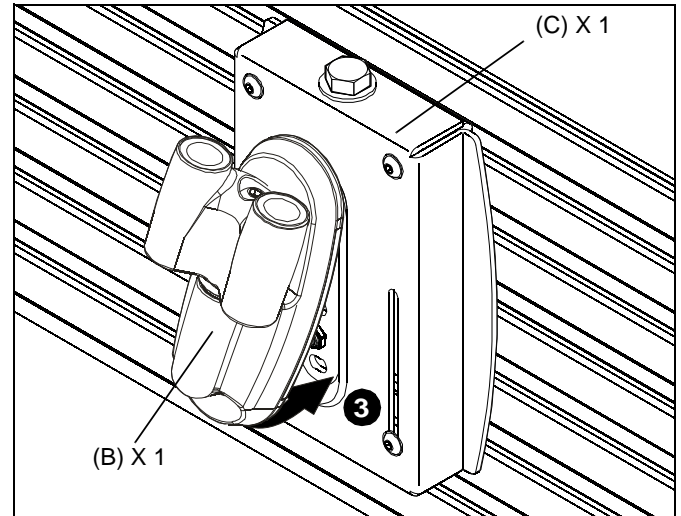

Figure 2
3. Swing wall plate (B) downward until flush against OFBU bracket (C). (See Figure 2)